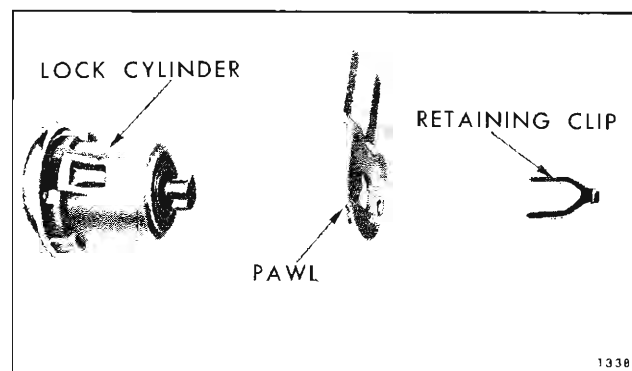

Fig. 2D33—Front Door Lock Cylinder Assembly
4. Remove door lock attaching screws and remove lock assembly through inner panel access hole (See Fig. 2D30).